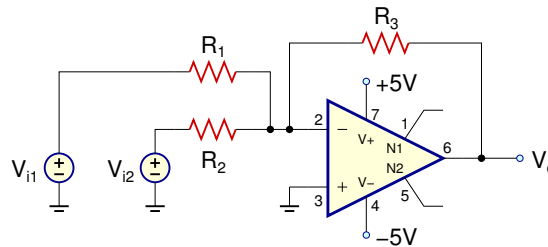

Figure 1: Summing amplifier circuit
An inverting amplifier can be modified to accommodate multiple input signals as shown in Fig. 1. Since the circuit is linear, the output voltage can easily be found by applying the superposition principle: the output voltage is a weighted sum of the two input signals. The weighting factor is determined by applying one of the input signals while the other is grounded and analyzing the resulting circuit. Since the circuit is linear, the analysis is repeated for the other input, and the final result is the addition of both signals. The advantage of this approach is that we can easily recognize the effect of each signal on the circuit's performance, and the overall output can be obtained in most of the cases by inspection. For the circuit in Fig. 1, the output voltage can be found as
The summing amplifier can be extended to have any number of input signals. Consider a two-bit digital signal applied to the inputs of the circuit in Fig. 1, resulting in an analog voltage at the output that is determined by the binary input. A more general configuration based on this circuit can be used to build digital-to-analog converters (DAC).
1. For the summing amplifier in Fig. 1, find R_1 and R_2 to have $V_o = -(V_{i1} + 2V_{i2})$, if $R_3 = 15k\Omega$.
1. Draw the schematics for the circuits in Figs. 1, 2, and 3 with the calculated component values using the UA741 opamp model.
1. Build the circuit in Fig. 1 with the simulated component values.